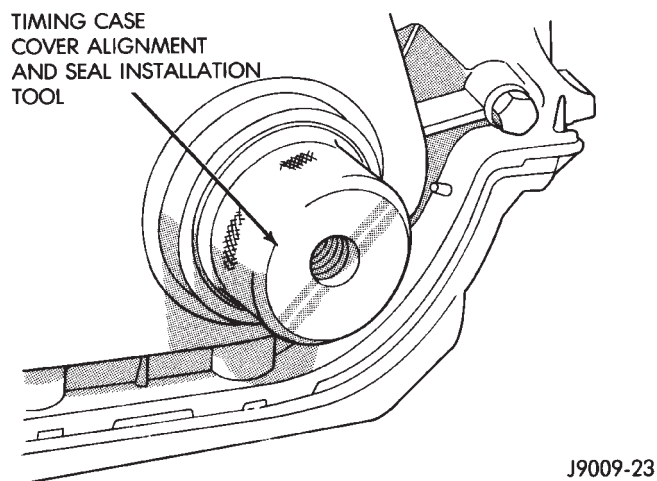

Fig. 5 Timing Case Cover Alignment and Seal Installation Tool 6139
(1) Install a new crankshaft oil seal in the timing case cover. The open end of the seal should be toward the inside of the cover. Support the cover at the seal area while installing the seal. Force it into position with Seal Installation Tool 6139.
(2) Position the gasket on the cylinder block.
(3) Position the timing case cover on the oil pan gasket and the cylinder block. Make sure the tension spring and thrust pin are in place in the camshaft preload bolt.
(4) Insert Timing Case Cover Alignment and Seal Installation Tool 6139 in the crankshaft opening in the cover (Fig. 5).